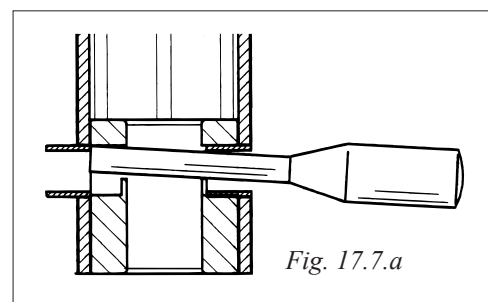

Fig. 17.7.a
3. Knock out the bushes at the lower end of the 1000 mm (39 3/8") luff extrusion. See fig. 17.7.a.